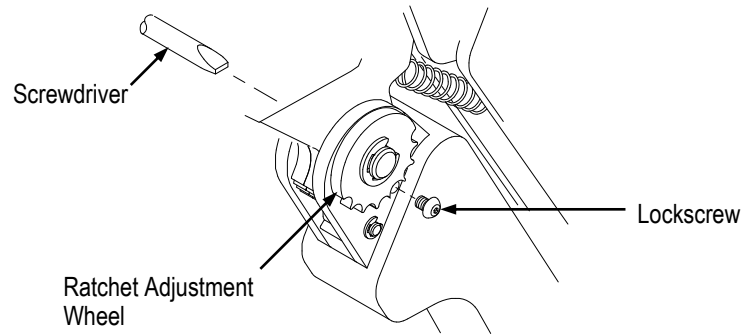

Figure 5
**7. RATCHET (Crimp Height) ADJUSTMENT** (Figure 5)
- Remove the lockscrew from the ratchet adjustment wheel. Refer to Figure 5.